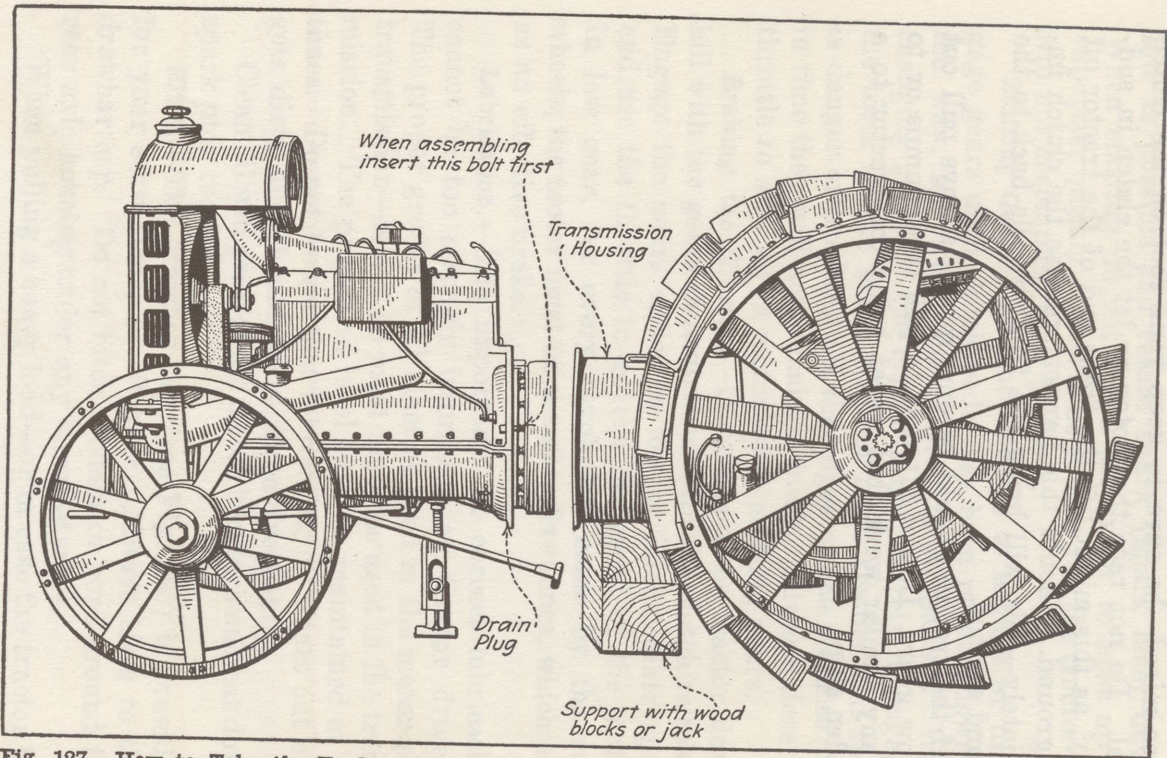

Fig. 127.—How to Take the Fordson Tractor Apart in the Middle to Gain Access to the Change Speed Gearing or Clutch.
motor separately, being careful to place a wedge on both sides between the cylinder front cover and the front axle so as to prevent the motor from tilting over when it is disconnected. (8) Remove the bolts from the cylinder flange holding the motor to the transmission housing; the rear part of the tractor can then be drawn away from the motor (see Fig. 127).